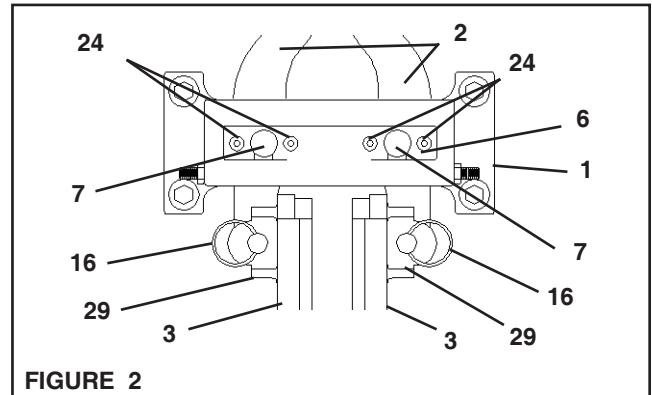

FIGURE 2
1. Remove the Detent Pins (Item 16) to release the Shoes (Item 3) and the Belleville Disc Springs (Item 29) (See Figure 2).
2. Remove the Shoes (Item 3) and Belleville Disc Springs (Item 29) (See Figure 2).
3. Remove four Cap Screws (Item 24) (See Figure 2).
4. Remove Pivot Pin Retaining Plate (Item 6) (See Figure 2).
5. Press out Pivot Pins (Item 7) (See Figure 2).
6. Slide Brake Arms (Item 2) out of Main Frame (Item 1) (See Figure 2).
8. Slide the Brake Arms (Item 2) back into the Main Frame (Item 1) (See Figure 2).
9. Press in the Pivot Pins (Item 7) (See Figure 2).
10. Reinsert the Pivot Pin Retaining Plate (Item 6) (See Figure 2).
12. Reinstall the Shoes (Item 3) and Belleville Disc Springs (Item 29) (See Figure 2).
13. Reinsert the Detent Pins (Item 16) to secure the Shoes (Item 3) and Belleville Disc Springs (Item 29) (See Figure 2).